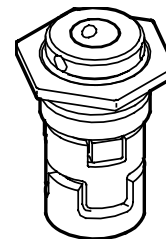

Fig. 24 Shaft seal (Cartridge type)
As standard, the CR(E) range is fitted with a Grundfos shaft seal (Cartridge type) suitable for the most common applications, see fig. 24.